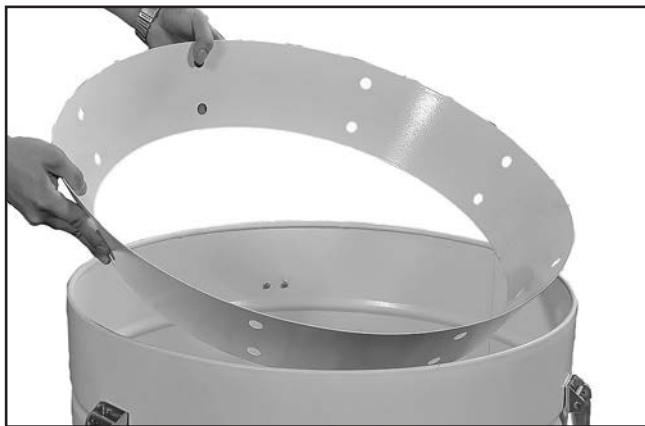

Figure 42. Inserting collection drum vacuum ring.
47. To prevent a vacuum leak in the collection drums, use (12) #10-24 x $\frac{3}{8}$ " Phillips head screws and (12) #10-24 hex nuts to plug the holes in the lower half of the collection drums.
48. Place the collection drum vacuum rings on the bottom of the collection drums (see **Figure 42**).